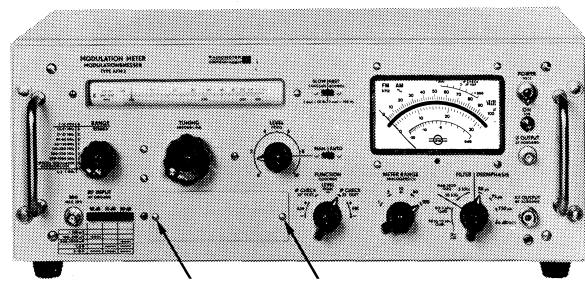

Fig. E5. The arrows show screws and plate to be removed when a plug-in unit is to be used.
1) Remove the two screws and the plate covering the receptacle in which the Crystal Oscillator Unit is to be placed (see Fig. E5).
- 1) Remove the two screws and the plate covering the receptacle in which the External-Oscillator Amplifier is to be placed (see Fig. E5).